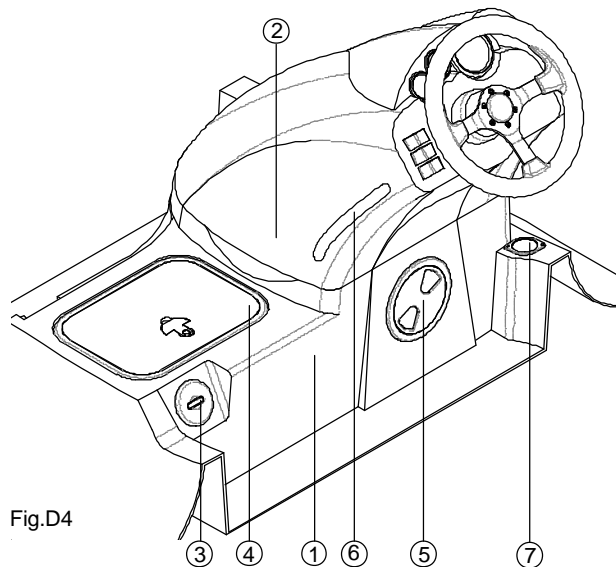

Fig.D4
Fiberglass plastic steering console is intended for plasing steering system, remote controle box, electrical equipment. The console is located on the starboard of the boat deck. The console consists of the following components (Fig.D4):
- open covers of the hatches (4) and (5), (Fig.D4);